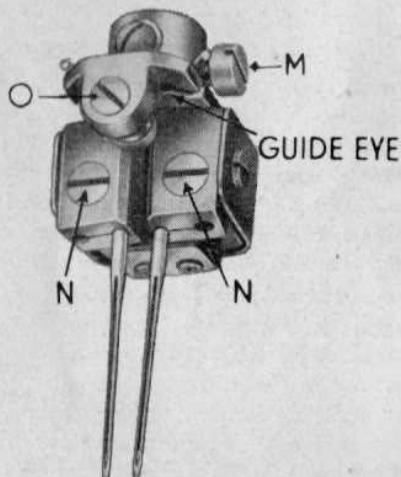

FIG. 56
two-needle clamp (fig. 56) on needle bar as far as it will go.
b. Inserting new Needle in Two Needle Clamp: To remove old needles, loosen needle set screw (N), shown in fig. 56. New needles must be inserted with *long* groove facing the user. (The needles' eyes must be in the direction of sewing.) Push needles up into needle clamp as far as they will go. Tighten needle set screws (N) securely and convince yourself that both needle eyes are on the same level and face forward. To determine the correct size of needles and thread consult table on page 4.
to left through its own individual hole in the take-up lever. Run threads downward along the side of the face plate through the two guides thereon. Then pull threads from behind through the left and right guide eyes in front of the two-needle clamp (fig. 56) thread the needles from front to back.
The distance between the two needles can be varied from about $5/64"$ to more than $3/16"$ by turning screw (O) at the front of the needle holder (fig. 56). When sewing thin material, keep needle distance as small as possible. On heavier goods use greater needle distance.